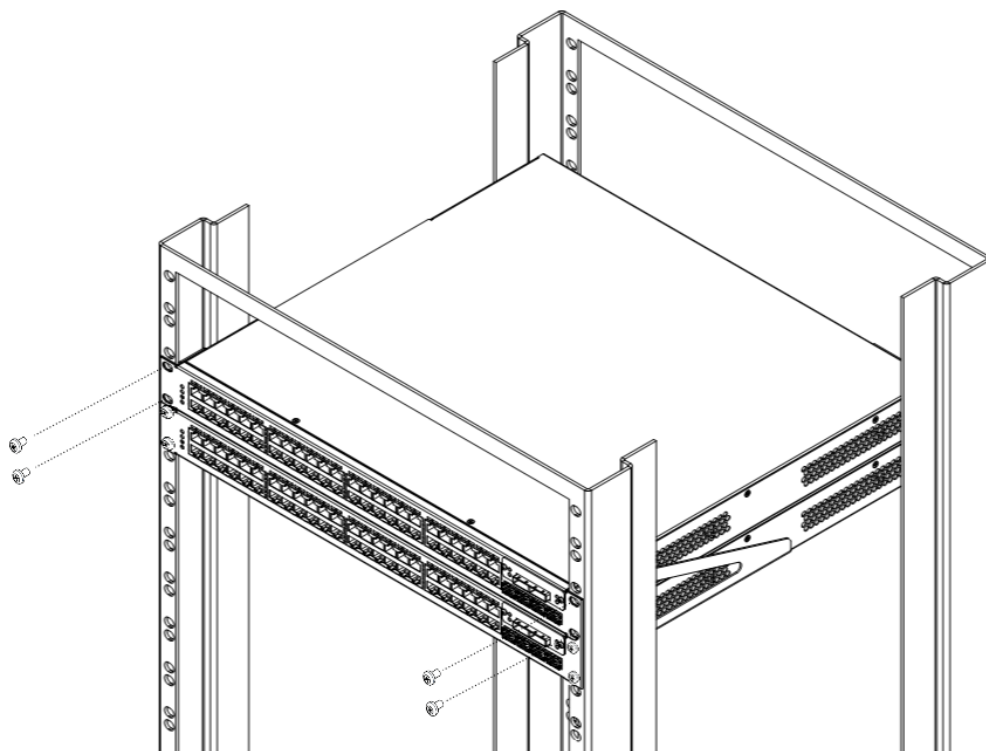

Figure 24. DM4100 with Strengthening Supports in the Rack
- Place the second chassis over the first one and screw it in the rack using the upper holes of the strengthening supports as shown in Figure 24.